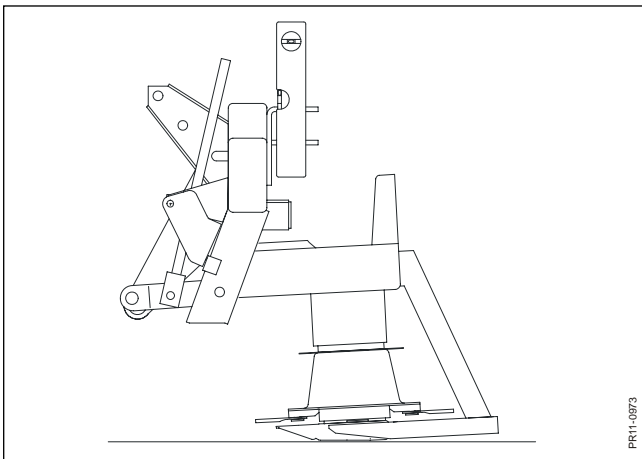

Fig. 3-8
- Fig. 3-8** From the factory the machine is constructed to cut with the shortest possible stubble when the headstock is completely vertical with the machine in working position.
**NB:** Irregular stubble or uneven driving in the field can be rectified by choosing an adjustment as shown in Fig. 3-8.